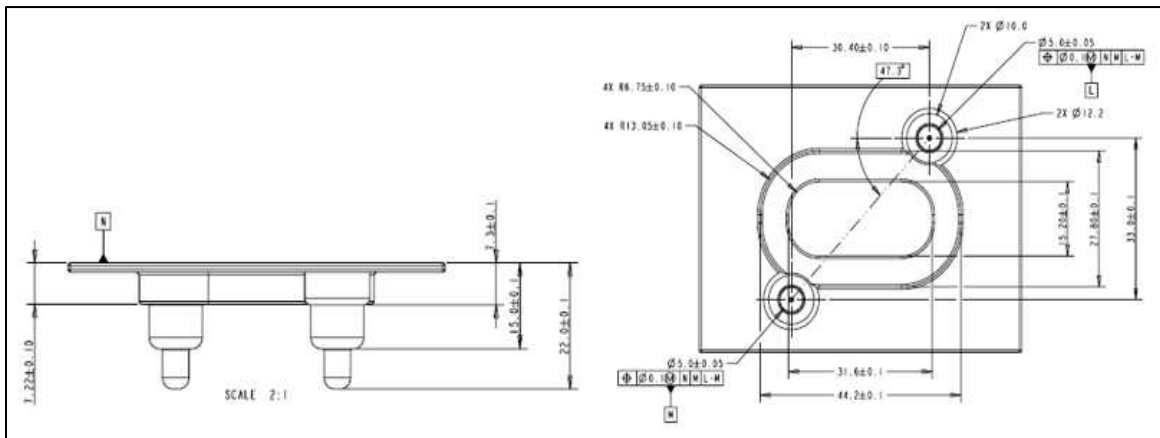

Figure 39: Recommended enclosure geometry for headers 2366735-X
- i. Dispense bead of sealant into the groove and secure the header assembly into place. Place Header assembly through panel cutout. See figure 39.